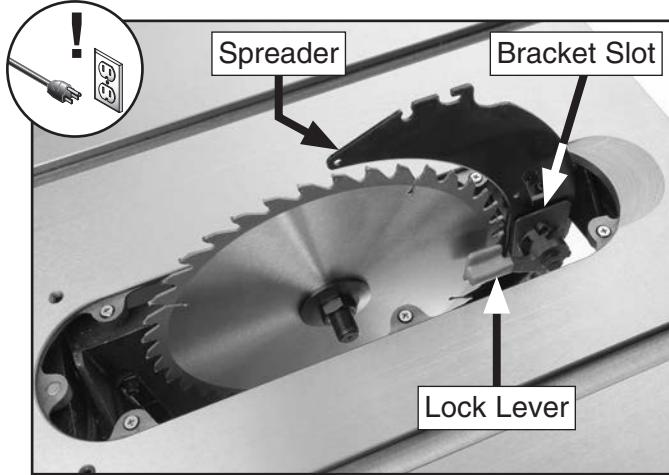

Figure 49. Lock lever used to secure spreader/riving knife.
- Insert lower set of holes on spreader/riving knife into bracket slot, and tighten lock lever to secure spreader (see **Figure 49**).